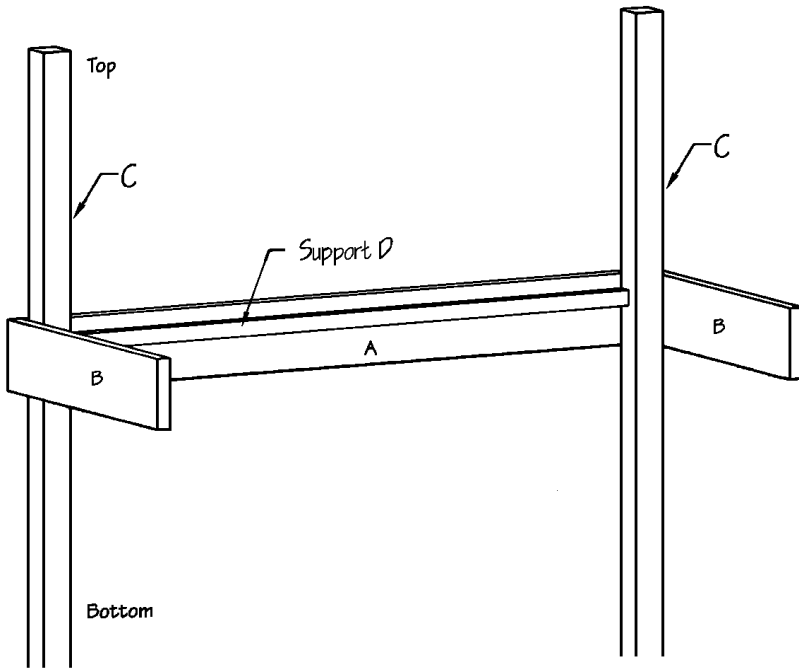

Figure 4
1. Cut two Support Trims (D) from 1 x 1 pine, each measuring 32-3/4 inches.
2. Cut eight Shelf Boards (E) from 1 x 4 pine each measuring 13-1/2 inches.
3. Place the Support Trims (D) inside the Long Sides (A) of the Bottom rectangle, 3/4 inch from the top edge of the Long Sides (A), as shown in *Figure 4*. Apply glue to the meeting surfaces, and nail through the Support Trims (D) into the Long Sides (A) using 1-1/4" finishing nails evenly spaced about 3 inches apart.